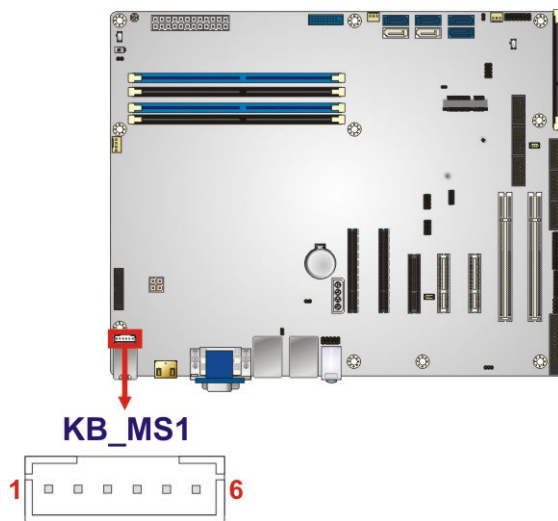

Figure 3-17: Keyboard and Mouse Connector Location
- CN Location:** See **Figure 3-17**